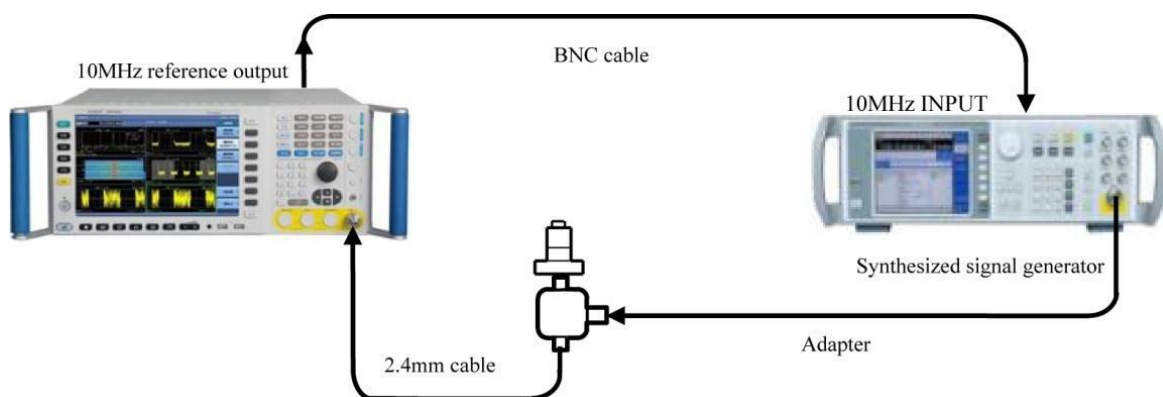

Fig. 8.10 Schematic diagram of frequency response test (3Hz ~ 50MHz)
- 39) Connect the test instrument as shown in Fig. 8.10 and then connect two output interfaces of the power divider to 50  $\Omega$  load and the signal/spectrum analyzer respectively.